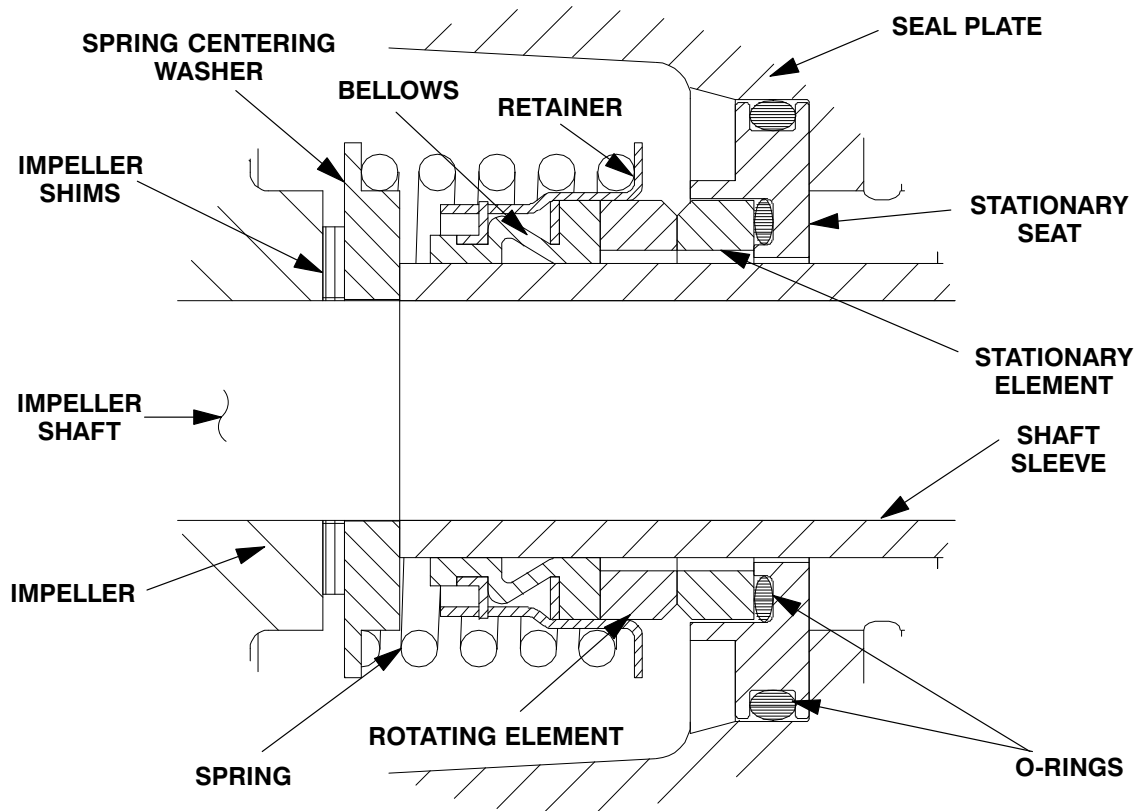

Figure E-3. Seal Assembly
To ease installation of the seal, lubricate the O-rings and shaft sleeve (61) with water or a very **small** amount of oil, and apply a drop of light lubricating oil on the finished faces. Assemble the seal as follows, (see Figure E-3).